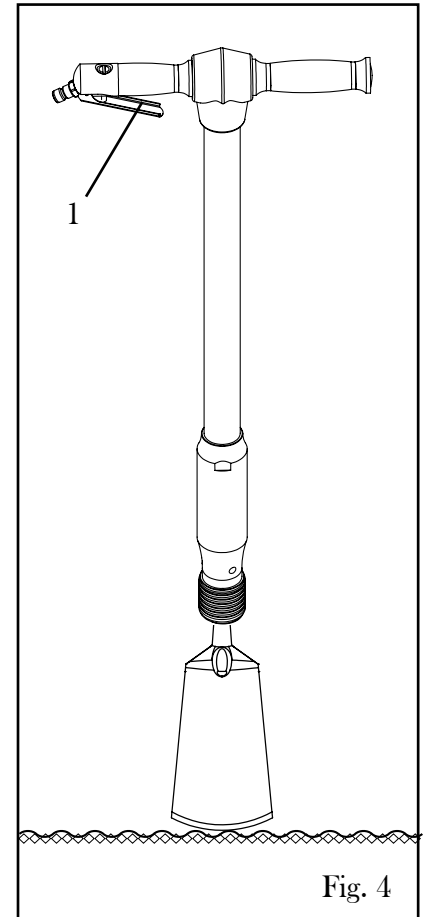

Fig. 4
2. Press the trigger (Fig. 4 - 1) to start the tool. During operation, hold the tool firmly enough to guide the tool down but do not exert additional force on the material. Let the tool do its own work.